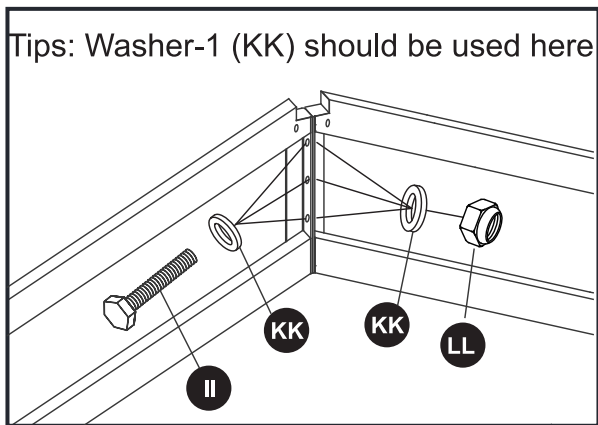

Fig.2.1
2.1 Connect the Slant beam (D) and Slant beam (E) with Bolts, Washers and Nuts (II/KK/LL). See Fig.2.1.